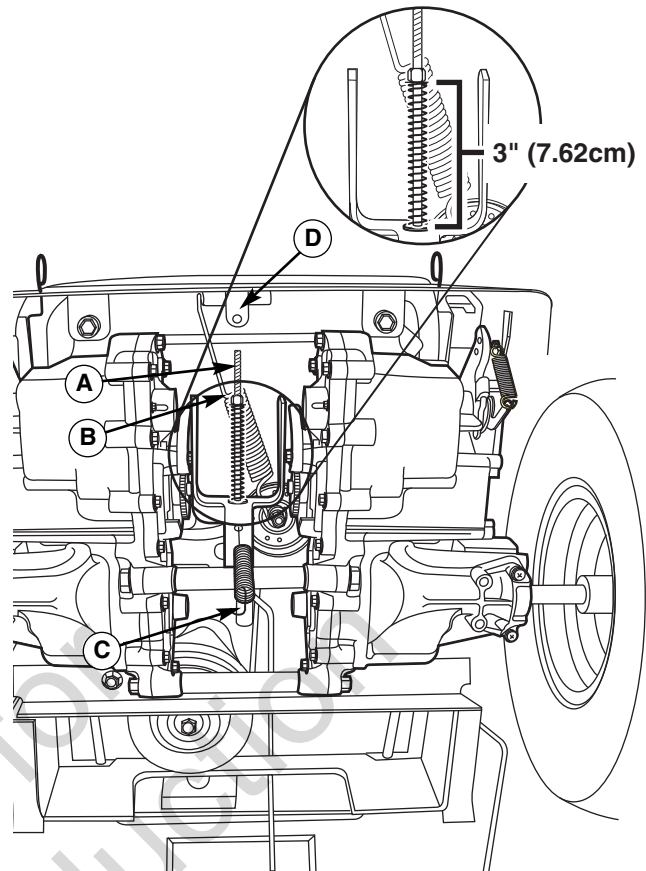

Figure 34. Brake Adjustment
4. Locate the brake rod (A, Figure 34) and adjustment nut (B).
5. Measure the parking brake spring. Its compressed length, with the parking brake lever in the ENGAGE position, should be 3-1/2" (8,89 cm). Adjust the spring length by turning the adjustment nut (B), if necessary.